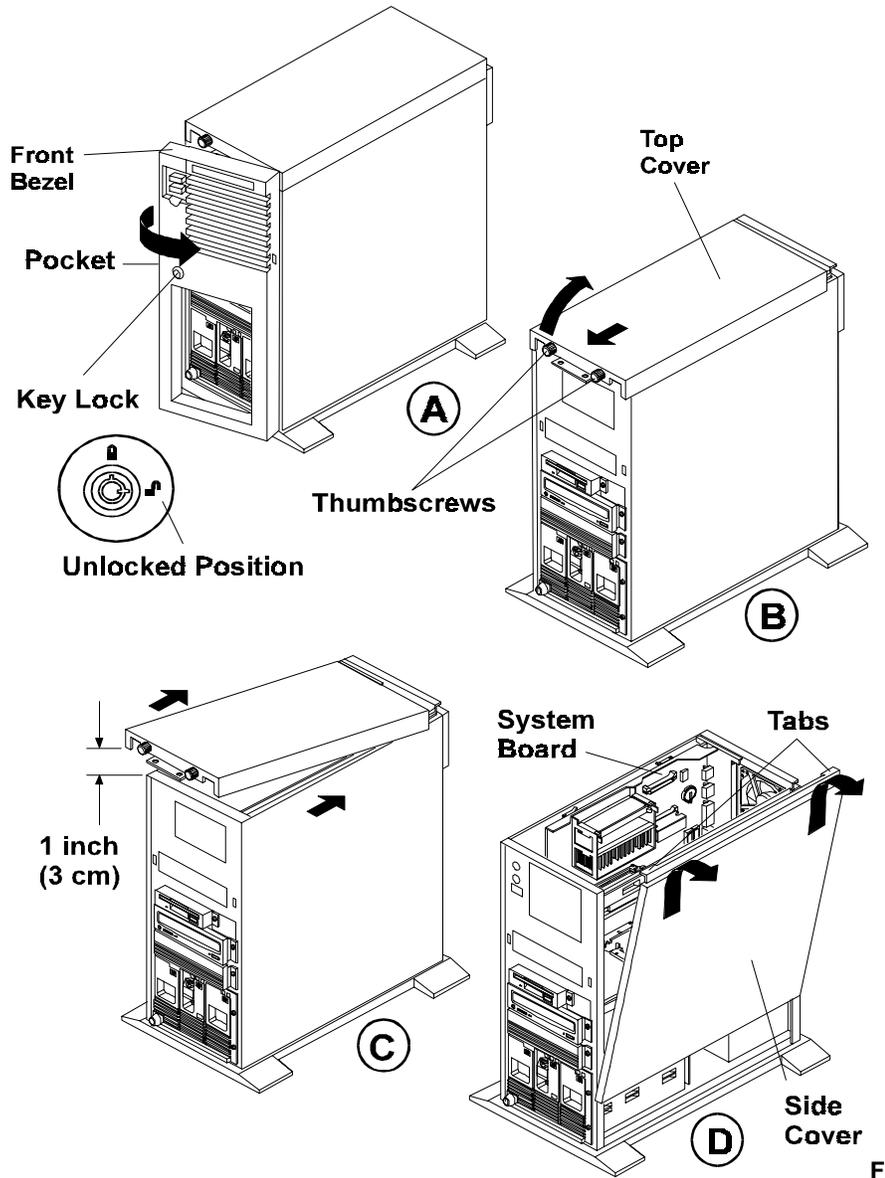

Figure 1-1. Remove the Front Bezel (A), Top Cover (B & C) and Side Cover (D)
- If you are installing accessory boards or additional mass storage devices (other than hot-swap disk drive modules), you must also remove the side cover farthest from the system board. Refer to Figure 1-1.
To remove the covers, refer to Figure 1-1 and do the following:
3. Remove the front bezel (See Figure 1-1, Step A.):
- a. Loosen both thumbscrews on the front of the HP NetServer. (See Figure 1-1, Step B.)
CAUTION Only lift the front of the top cover high enough to create a gap of 1 inch (3 cm) between the top cover and the chassis. Lifting the top cover higher can damage it and the chassis. (See Figure 1-1, Step C.)
5. If you are installing any accessory boards or additional mass storage devices (other than hot-swap disk drive modules), also remove the side cover farthest from the system board (See Figure 1-1, Step D.):